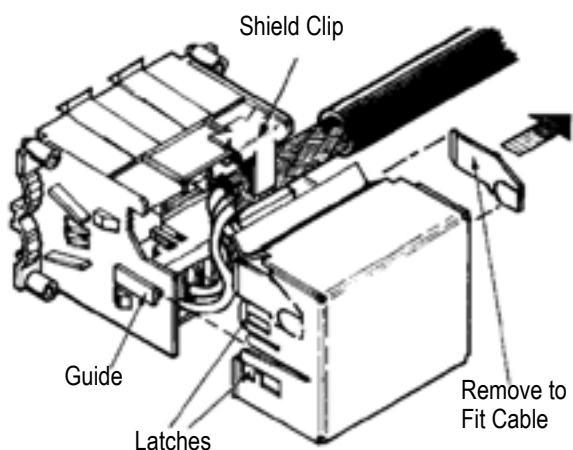

Figure 9
1. Break away a portion of the tab on the side of the metal shield (side oriented with cable exit). See Figure 9.
2. Install shield clip as shown in Figure 9. Shield clip should make contact with metal braid.